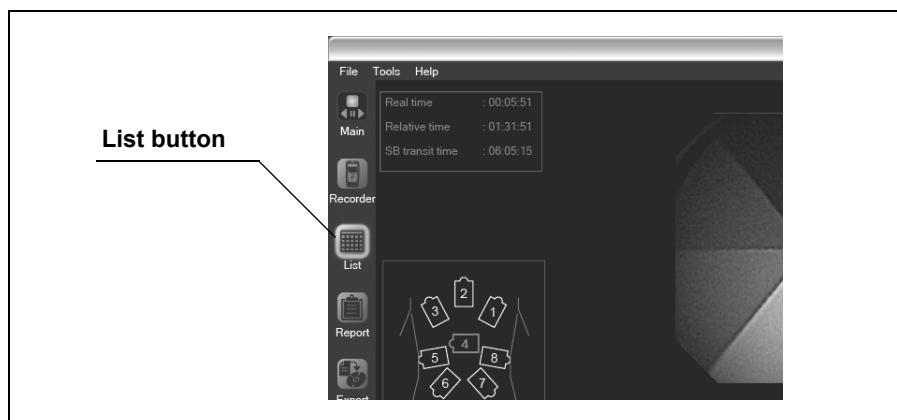

Figure 6.4
1. Click the [List] button on the main screen (see Figure 6.4). The examination list screen is displayed.